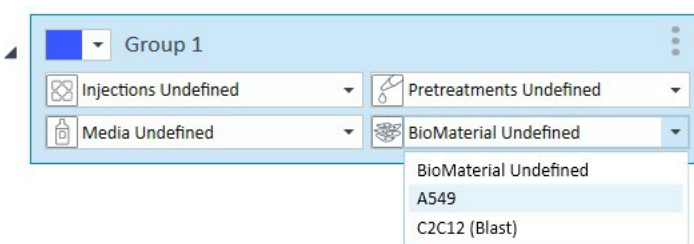

Figure 15. Drop-down menus for group definitions
- 2 Use the drop-down menu for each group definition to assign the appropriate conditions (Figure 15.)